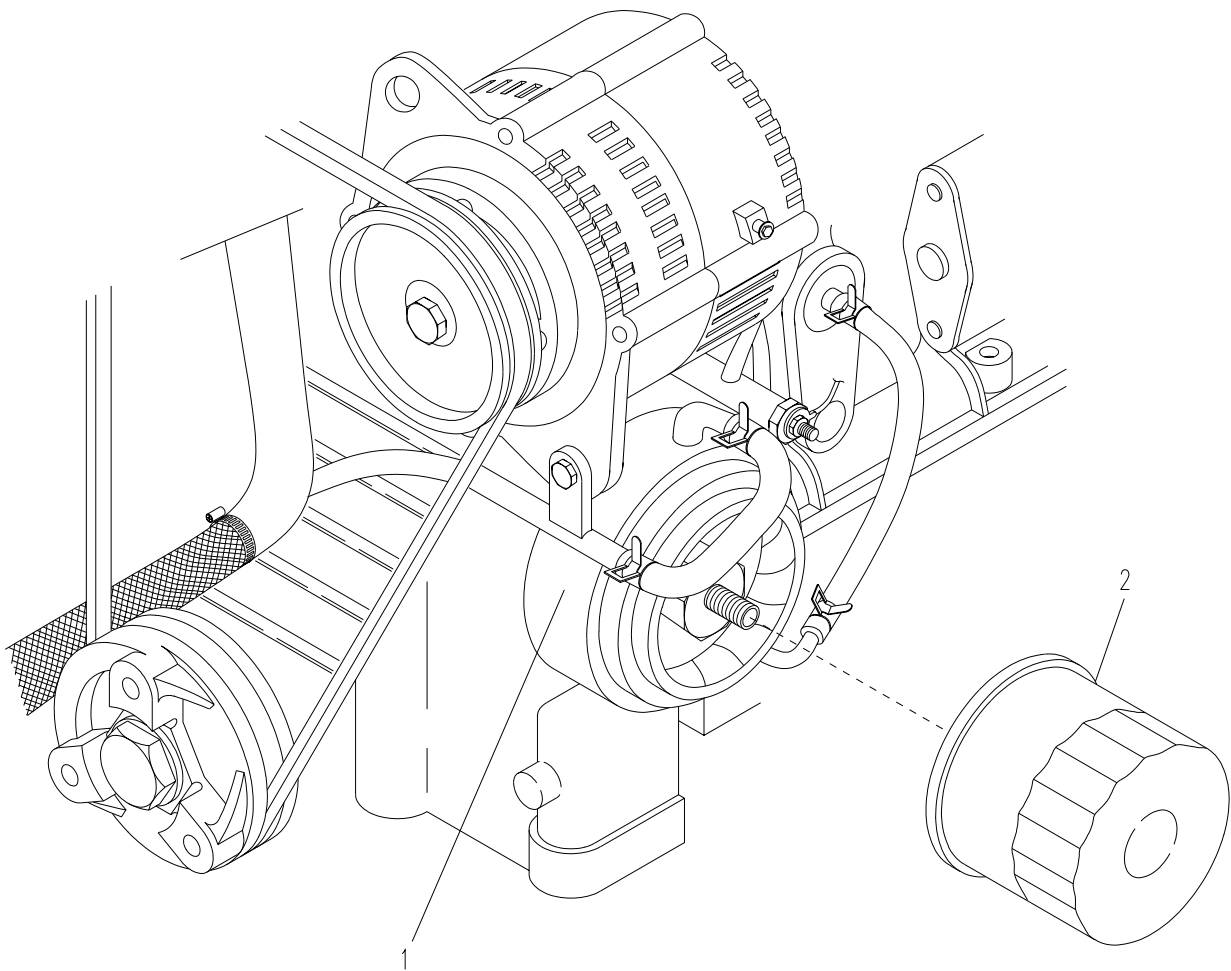

Figure 4-2. Oil Filter
- a. Unscrew oil filter (2, Figure 4-2) by turning counter clockwise.
- b. Remove oil filter from oil cooler (1).